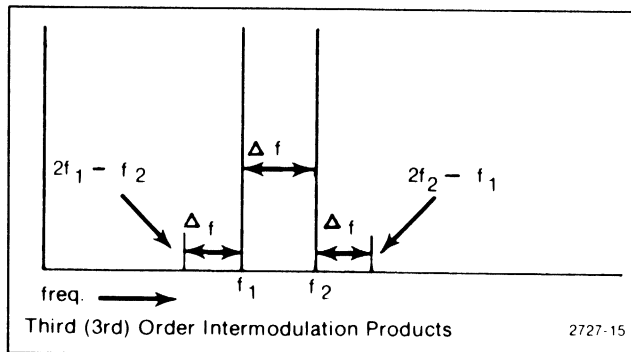

Figure 4-14. Intermodulation products.
d. Check that the third order IM products are at least 70 dB down from the input signal level. See Figure 4-14.